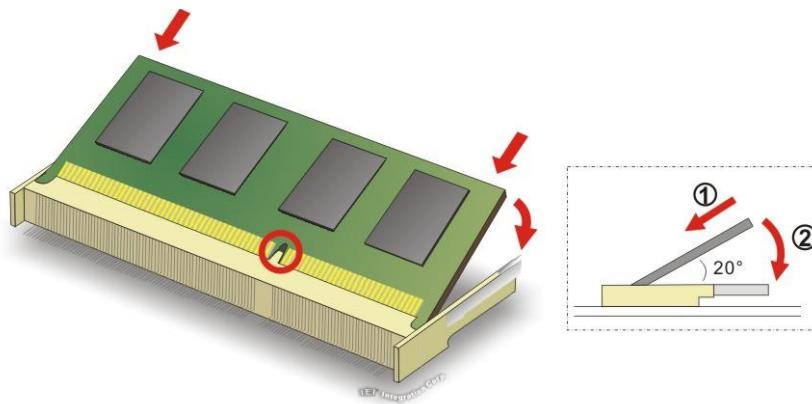

Figure 4-1: SO-DIMM Installation
To install an SO-DIMM, please follow the steps below and refer to **Figure 4-1**.
Step 3: Insert the SO-DIMM. Push the memory in at a 20° angle. (See **Figure 4-1**)
Step 4: Seat the SO-DIMM. Gently push downwards and the arms clip into place. (See Figure 4-1)